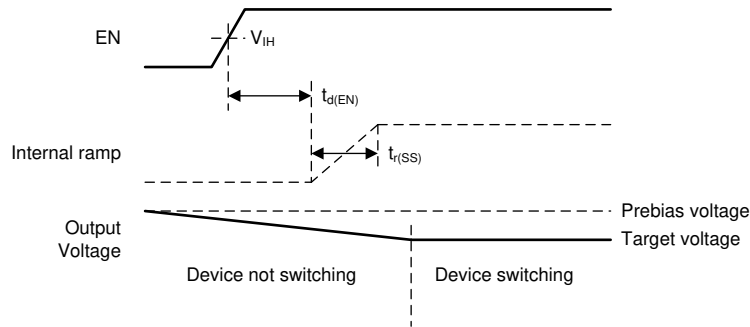

图 7-9. Start-Up Behavior into Prebiased (High) Output
- If the prebias voltage is *higher* than the target voltage, the device does not start to switch until the output voltage has decreased to the target voltage (see 图 7-9). The device cannot actively discharge the output to the target voltage and relies on the load current to discharge the output capacitor and decrease the output voltage to the target value.